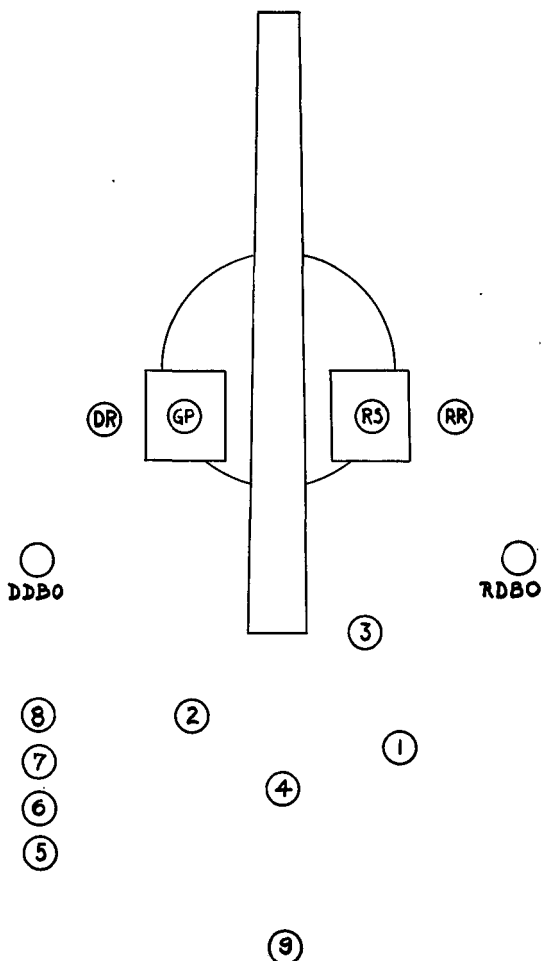

FIGURE 2.—Details, posts.
b. He commands: 1. DETAILS, 2. POSTS, when the section arrives in rear of the emplacement, and supervises the procuring of equipment. After all details have reached their posts (fig. 2), he commands: **EXAMINE GUN.** He then makes an inspection of the gun, carriage, and other matériel, paying special attention to the recoil cylinder, firing mechanism, safety devices, and the oiling of the various bearings. He receives the reports of the chief of ammunition and of the various details of the gun squad, and reports to the officer in charge of the emplacement, "Sir, No. ----- in order," or reports defects which he is unable to remedy without delay.